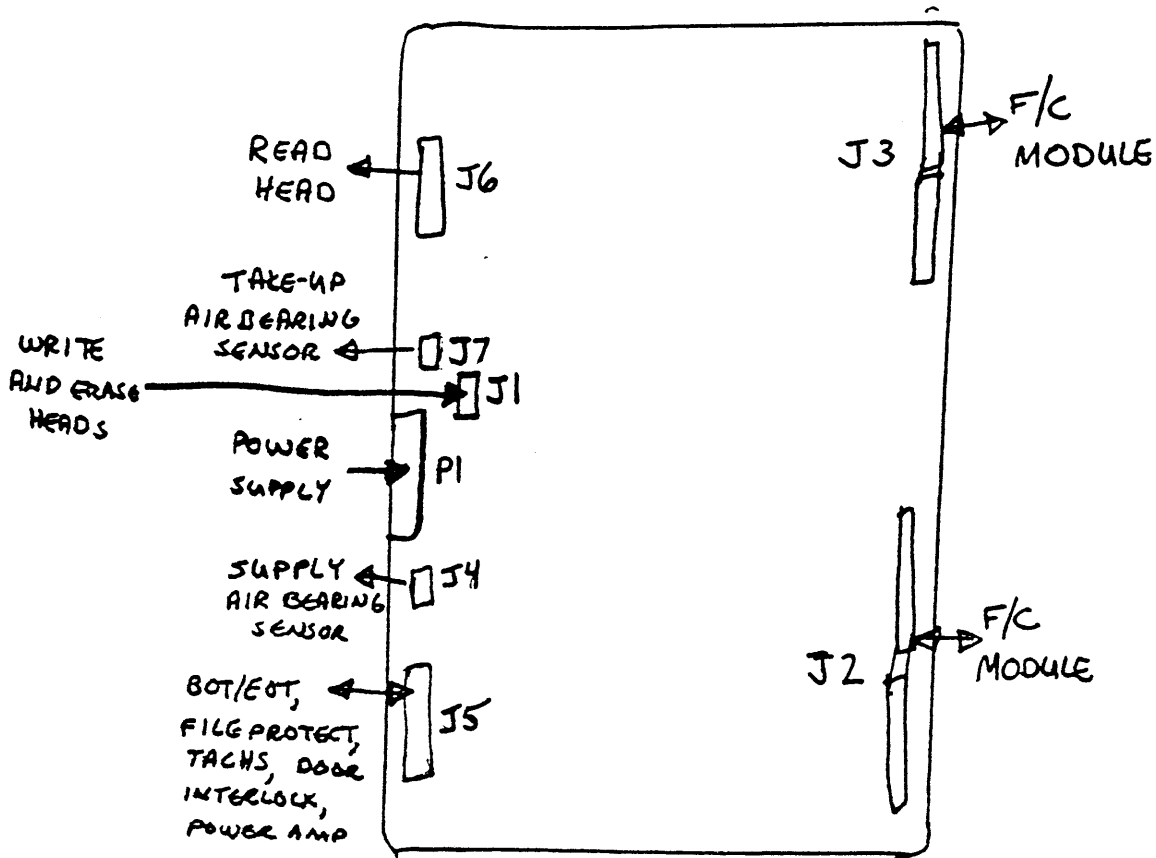

Figure 13 Read/Write/Servo (R/W/S) Module
- ___ 2. Detach all cable connectors from the board connectors (Figure 13).